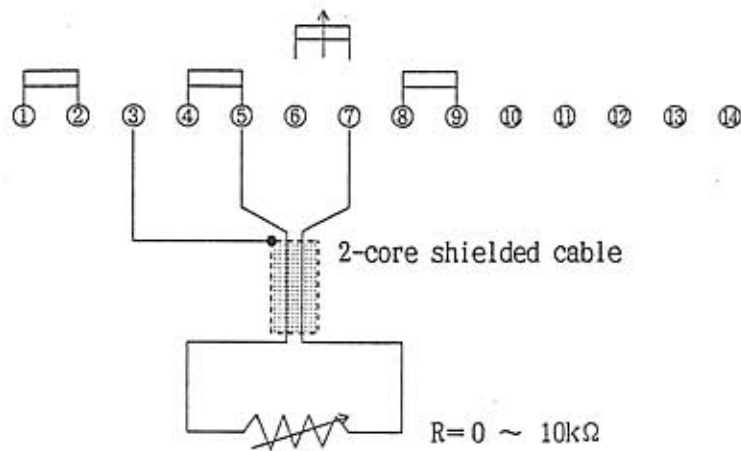

Figure 9
As shown in Figure 9, disconnect the jumper wire from between terminals ⑥ and ⑦, and connect a potentiometer between terminals ⑤ and ⑦. The output voltage (V_o) is proportional to the resistance of the potentiometer as expressed with the following equation, where V_R denotes the rated output voltage of the range, (When in this mode of operation, the VOLT ADJ control on the front panel remains idle.)